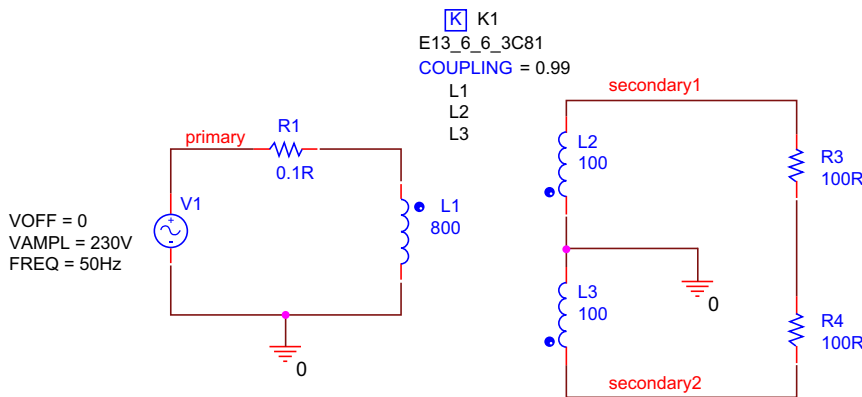

FIGURE 9.12
1. Create a new project called Non Linear Transformer and draw the circuit in Figure 9.12. Enter the inductor values as the number of turns as shown. The E13_6_6_3C81 core model is found in the **magnetic** library. Enter a value of 0.99 for the coupling coefficient.